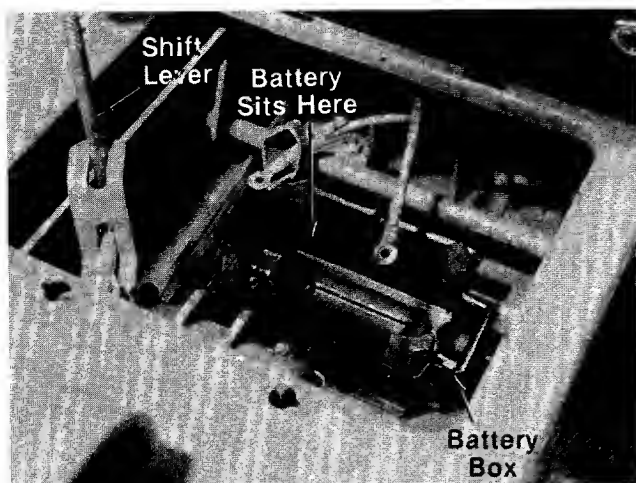

FIGURE 13.
4. Move the shift lever all the way to the left. See figure 13.
Figure 13 shows the battery box in which the battery will be mounted.
- Peel the paper off the foam strips to expose the adhesive backing. Press foam strips firmly into the corners of the battery box. See figure 13.